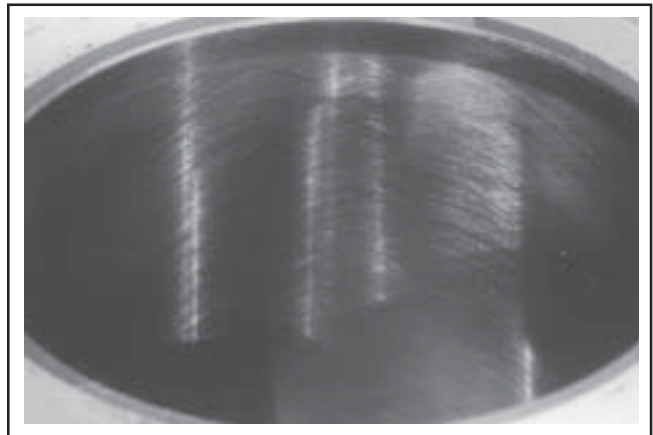

Figure 10-3. Cylinder Bore Crosshatch After Honing.
3. When the bore is within **0.064 mm (0.0025 in.)** of the desired size, remove the coarse stones and replace them with burnishing stones. Continue with the burnishing stones until the bore is within **0.013 mm (0.0005 in.)** of the desired size and then use finish stones (220-280 grit) and polish the bore to its final size. A crosshatch should be observed if honing is done correctly. The crosshatch should intersect at approximately 23°-33° off the horizontal. Too flat an angle could cause the rings to skip and wear excessively, and too steep an angle will result in high oil consumption. See Figure 10-3.